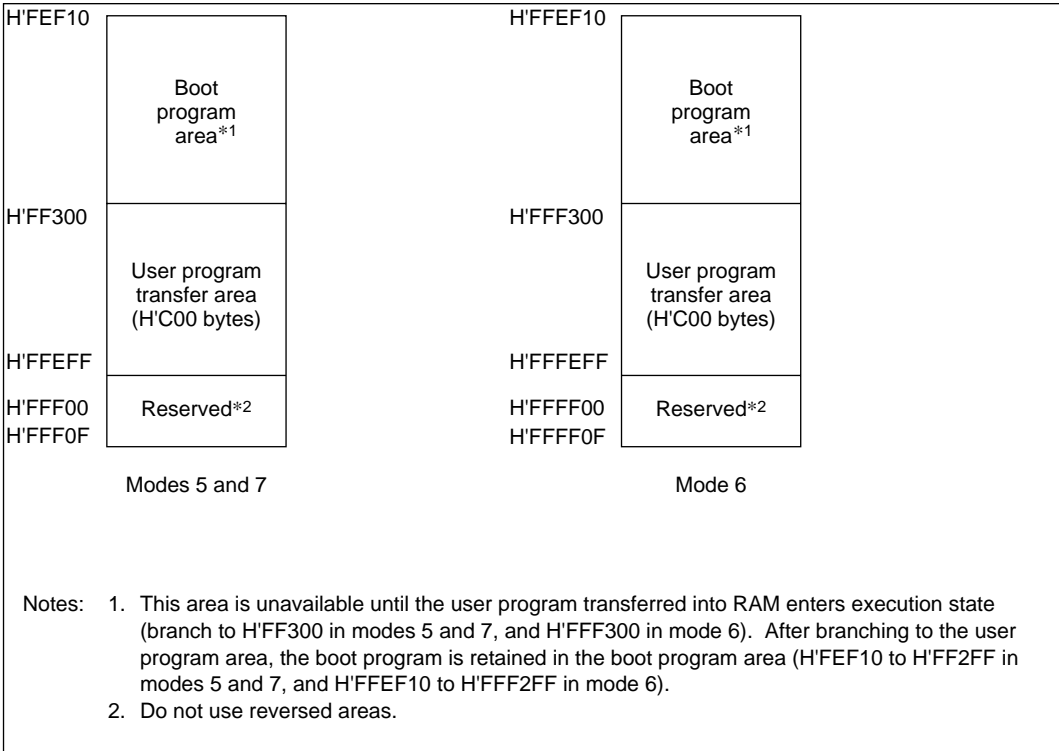

Figure 18-12 RAM Areas in Boot Mode
6. Transition to boot mode are shown in Figure 18-12, "RAM Areas in Boot Mode." This is possible after applying 12 V to pins MD₂ and V_{PP} and restarting. In this case, H8/3048F reset is erased (startup with Low → High) timing*¹, mode pin status latches the personal computer internally to maintain boot mode. Boot mode can be erased if the 12 V applied to the MD₂ pin and the V_{PP} pin is erased, then reset is erased*¹. However, please note the following.